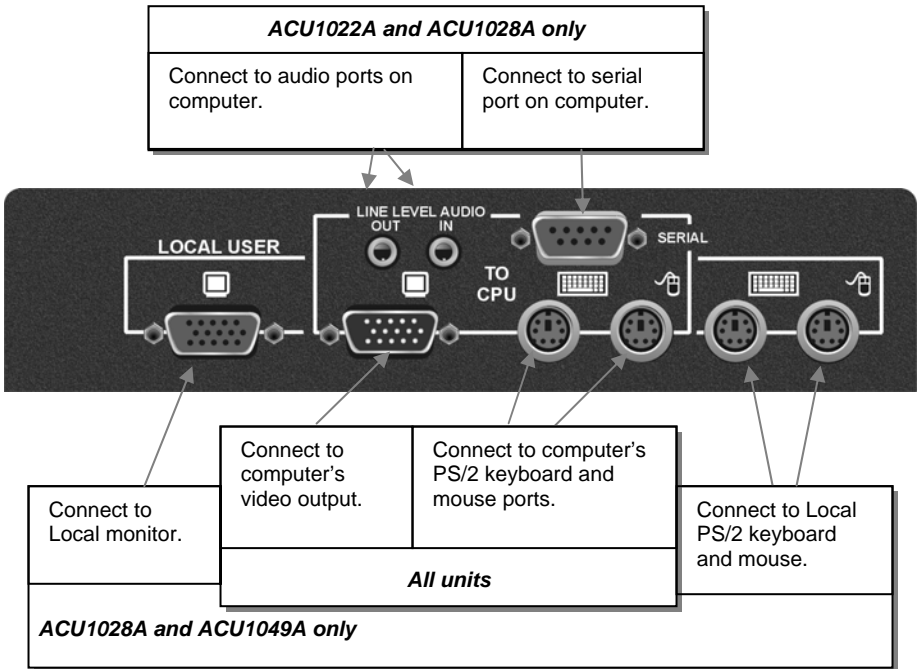

Figure 6 Standard Local Unit - rear view
2. Using the supplied CPU KVM cable(s), connect the keyboard, monitor(s) and mouse connectors on the computer (or KVM switch) to the corresponding connectors on the Local Unit as shown in Figure 6.